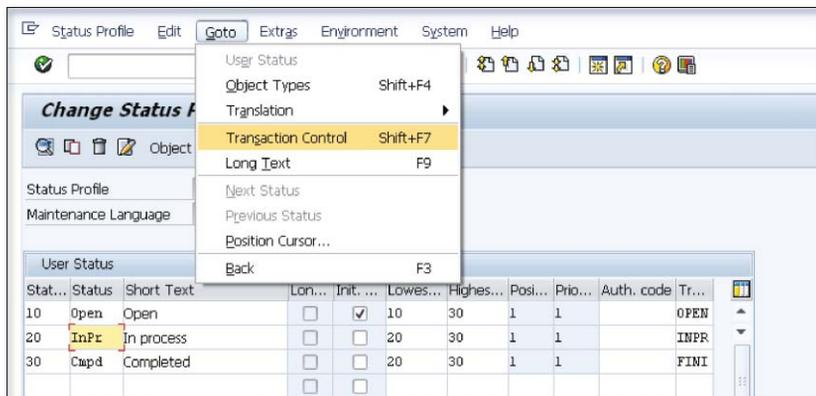

Figure 4.80 Transaction Control Option within the Status Profile
- To influence certain actions on the transaction based on the user status, you can access the TRANSACTION CONTROL menu option based on a certain user status (see Figure 4.80). In this example, the user status COMPLETED-CMPD has an influence on the transaction to set the transaction to COMPLETE (see Figure 4.81).